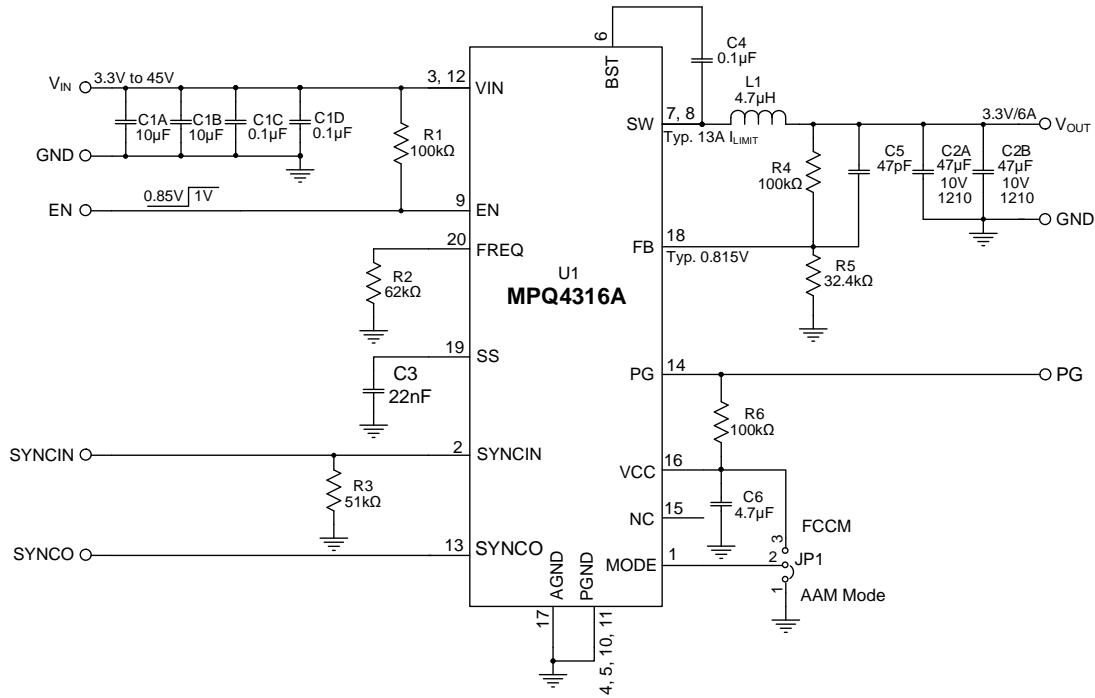

Figure 10: Typical Application Circuit ($V_{OUT} = 3.3V$, $f_{sw} = 470kHz$)
10) The recommended PCB layout is based on Figure 10 on page 34.